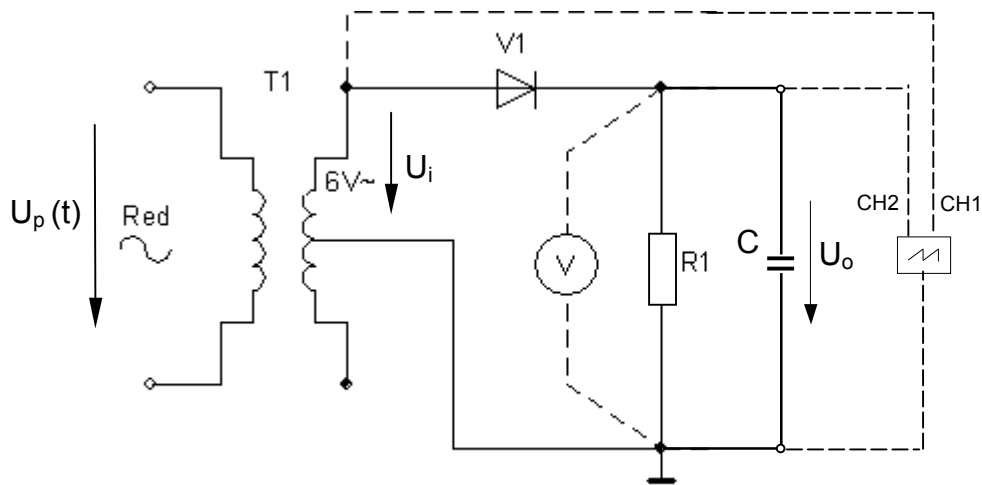

Fig. 3.7 Half-wave rectifier
1. Simulate the half-wave rectifier circuit of Figure 3.7.
4. connect the oscilloscope and the resistor R1 (without the capacitor C) as it is shown in Fig. 3.7.;
8. supply the circuit by connecting the jacks 1, 2 and ground to the the transformer (6-0-6VAC) (Fig. 3.7) but without the capacitor C;